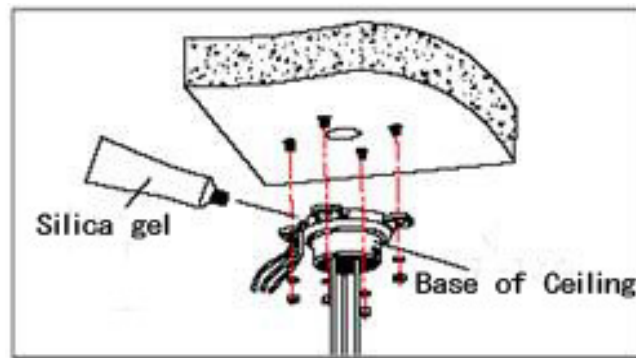

Fig 13
b. As shown in fig 13, at first unscrew the M4 screw at the side of the base of ceiling and split the base of ceiling and boom. Then make the three groups of cables of power, video/control and alarming into the side recessing seal groove of the ceiling connector bottom and through the core hole of the base of ceiling mounted. Fix the base of hang ceiling on the ceiling board.